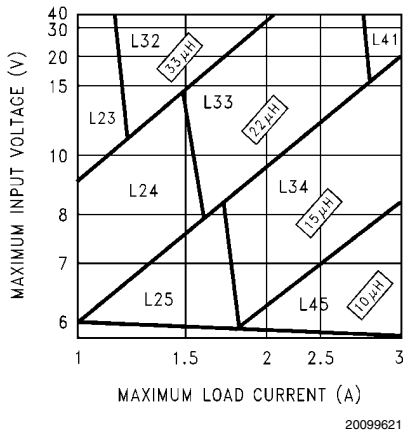
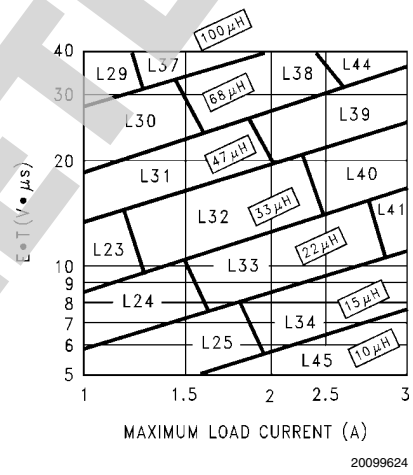

FIGURE 3. LM2676-3.3EP
FIGURE 6. LM2676-ADJEP
Step 3: Determine the inductor required by using one of the four nomographs, Figure 3 through Figure 6. Table 1 provides a specific manufacturer and part number for the inductor.
Step 5: Determine an input capacitor from Table 4 for fixed output voltage applications. Use Table 2 to find the specific capacitor type. For adjustable output circuits select a capacitor from Table 2 with a sufficient working voltage (WV) rating greater than $V_{in\ max}$, and an rms current rating greater than one-half the maximum load current (2 or more capacitors in parallel may be required).
Step 3: Use the nomograph for the 3.3V device, Figure 3. The intersection of the 16V horizontal line ($V_{in\ max}$) and the 2.5A vertical line ($I_{load\ max}$) indicates that L33, a $22\mu\text{H}$ inductor, is required.
Step 3: To use the nomograph for the adjustable device, Figure 6, requires a calculation of the inductor Volt•microsecond constant (E•T expressed in V•μS) from the following formula:
Using Figure 6, the intersection of 27V•μS horizontally and the 2A vertical line (I_{load max}) indicates that L38, a 68μH inductor, should be used.
Important Note: When using the adjustable device in low voltage applications (less than 3V output), if the nomograph, Figure 6, selects an inductance of 22μH or less, Table 6 does not provide an output capacitor solution. With these conditions the number of output capacitors required for stable operation becomes impractical. It is recommended to use either a 33μH or 47μH inductor and the output capacitors from Table 6.